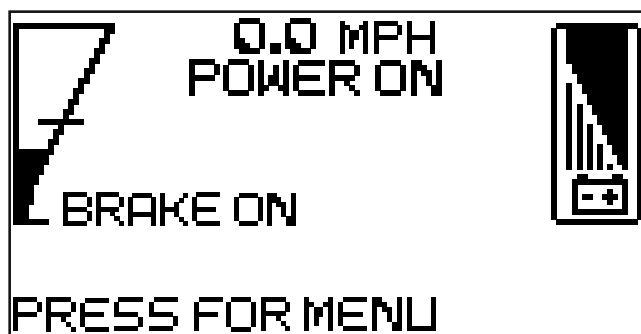

Figure 5-8
- When the rider starts the screen will display the power usage indicator, battery level indicator, rider speed and "POWER ON" will display on the screen. See Figure 5-8.